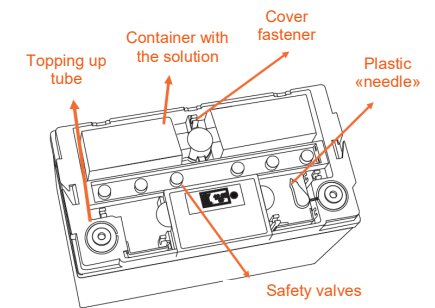

Figure 2.
Step 3. Pull out the container with the solution and remove the safety valves caps on the battery (Figure 2).